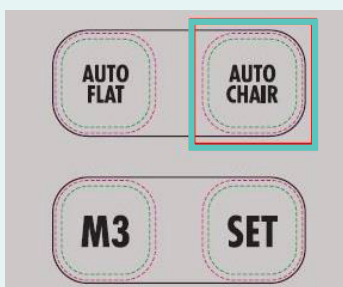

Figure 2
8.2 Auto Chair, position function – this chair or seated position has been pre-set for your convenience. To operate, press & hold the button on the handset labelled 'Auto Chair' until all actuators/functions have stopped moving and the desired chair position has been reached. (See Figure 2 The seat will tilt to 2 degrees forward, the backrest raise up, and the leg rest will lower completely.).